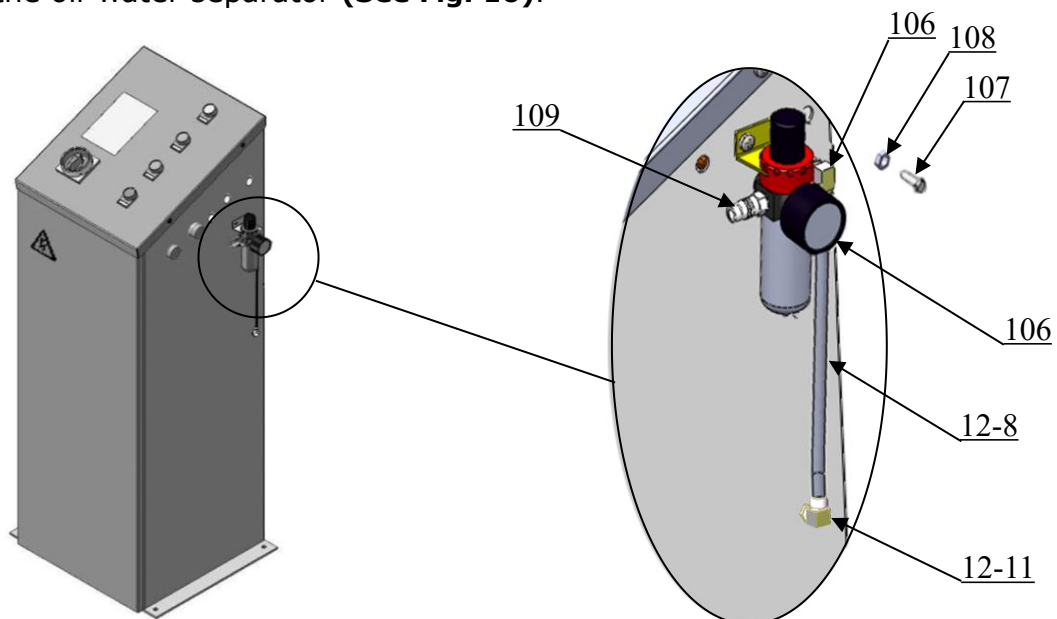

Fig. 16
- ⑥ Oil hose 1/4*5500 mm
- ⑦ Oil hose 1/4*5500 mm
- ⑧ Oil hose 1/4*5500 mm
- ⑨ Oil hose 1/4*6800 mm
- ⑩ Oil hose 1/4*5350 mm
4. Install the oil-water separator **(See Fig. 16).**